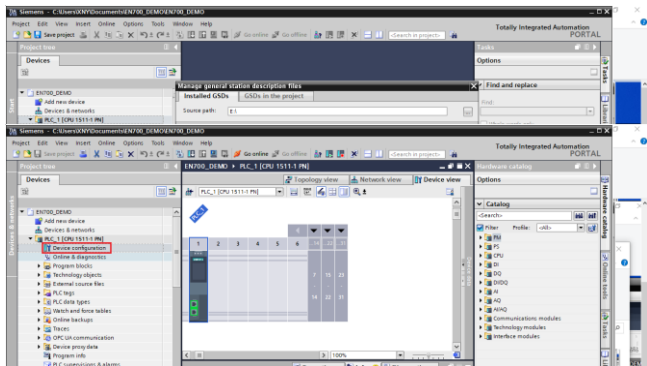

Figure 4-9
(3) Hardware configuration files settings, double-click "device configuration", as shown in Figure 4-9